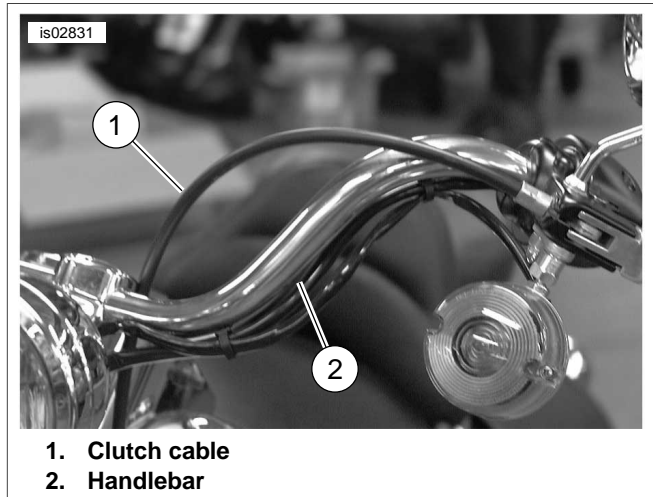

Figure 1. Clutch Cable Routing
2. See Figure 1. Relocate the clutch cable (1) to the inside of the handlebar (2) as follows: